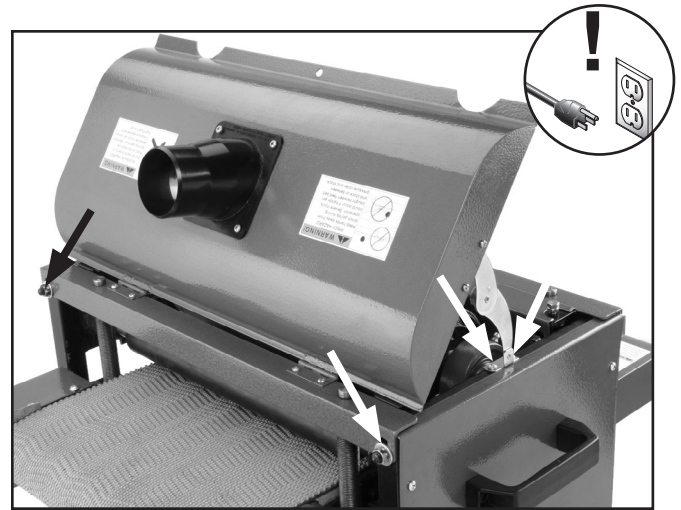

Figure 39. Locations to remove top cover mounting hardware.
2. Remove the top cover by loosening the hex bolts and removing the Phillips head screws (**Figure 39**) securing the top cover support.